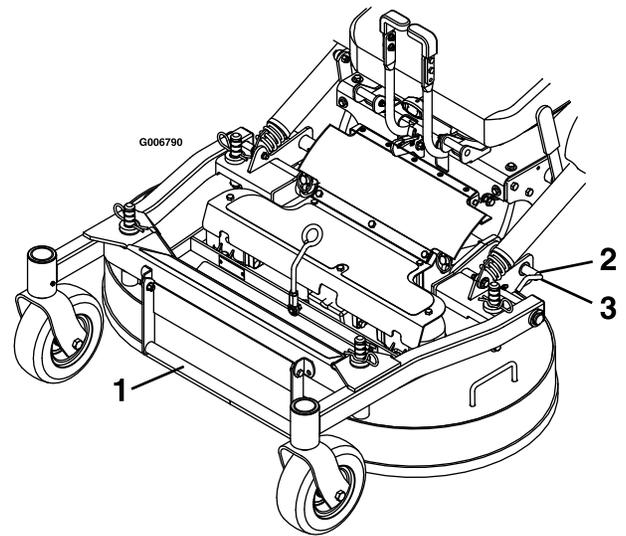

Figure 8
- Release the mower deck locking pins on each side (Figure 8).
2. Push the deck-locking pins inward and rotate them forward to securely lock the mower deck in the lowered position (Figure 8).